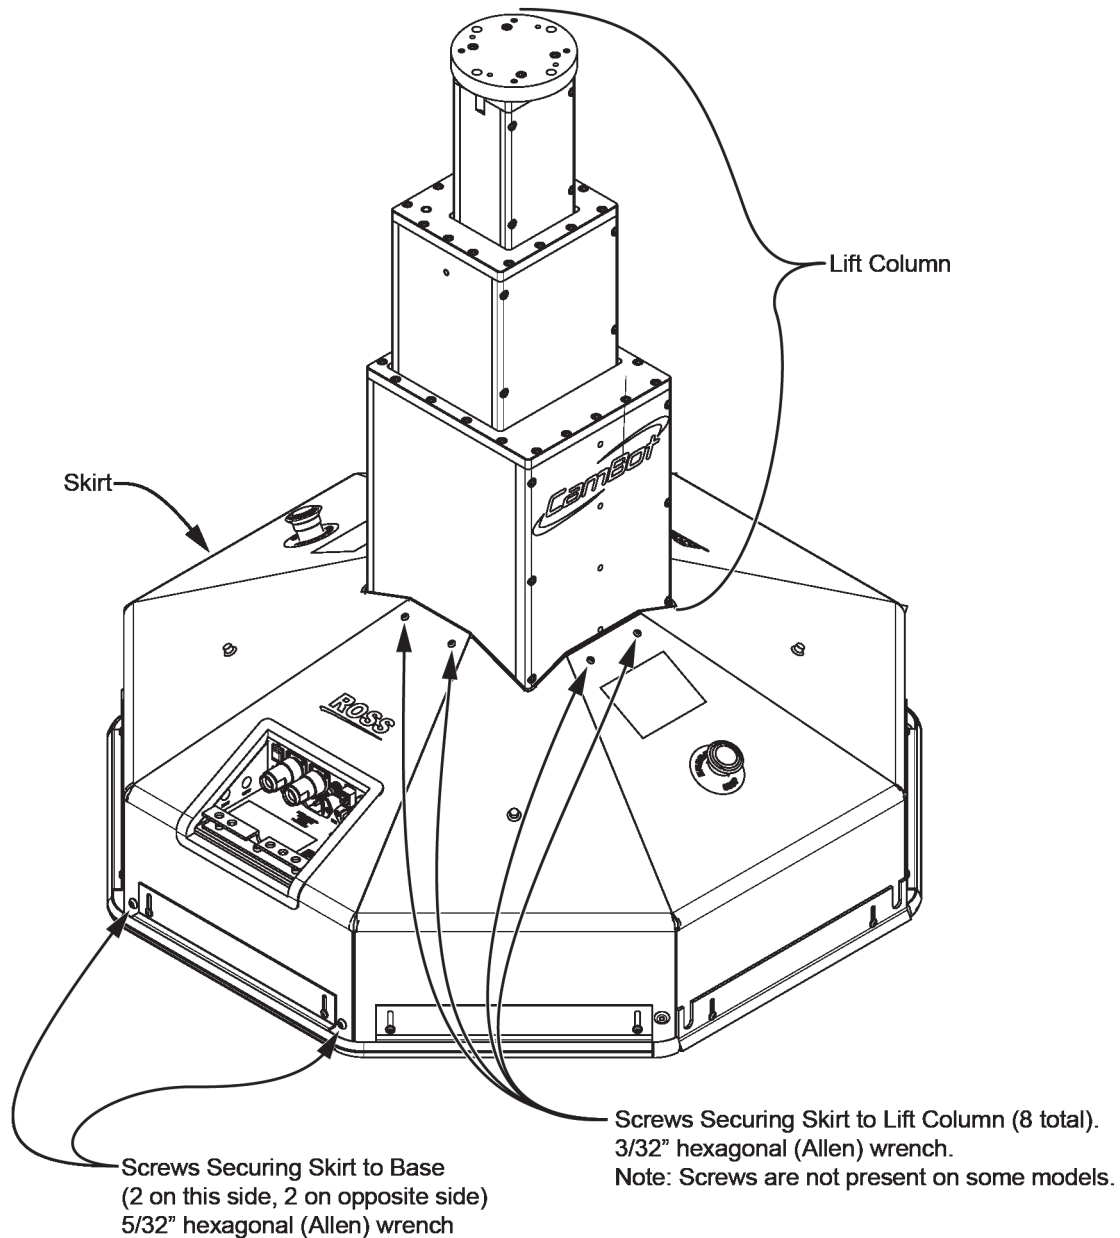

Figure 4 - CamBot 700XY Pedestal, showing Screws that Secure the Skirt
1. Along the top edge of the skirt, use a $3/32$ " hex key to remove the eight screws that secure the skirt to the lift column (if present). See **Figure 4**.
2. At the bottom of the skirt, use a $5/32$ " hex key to remove the four screws that secure the skirt to the pedestal base plate (see **Figure 4**).